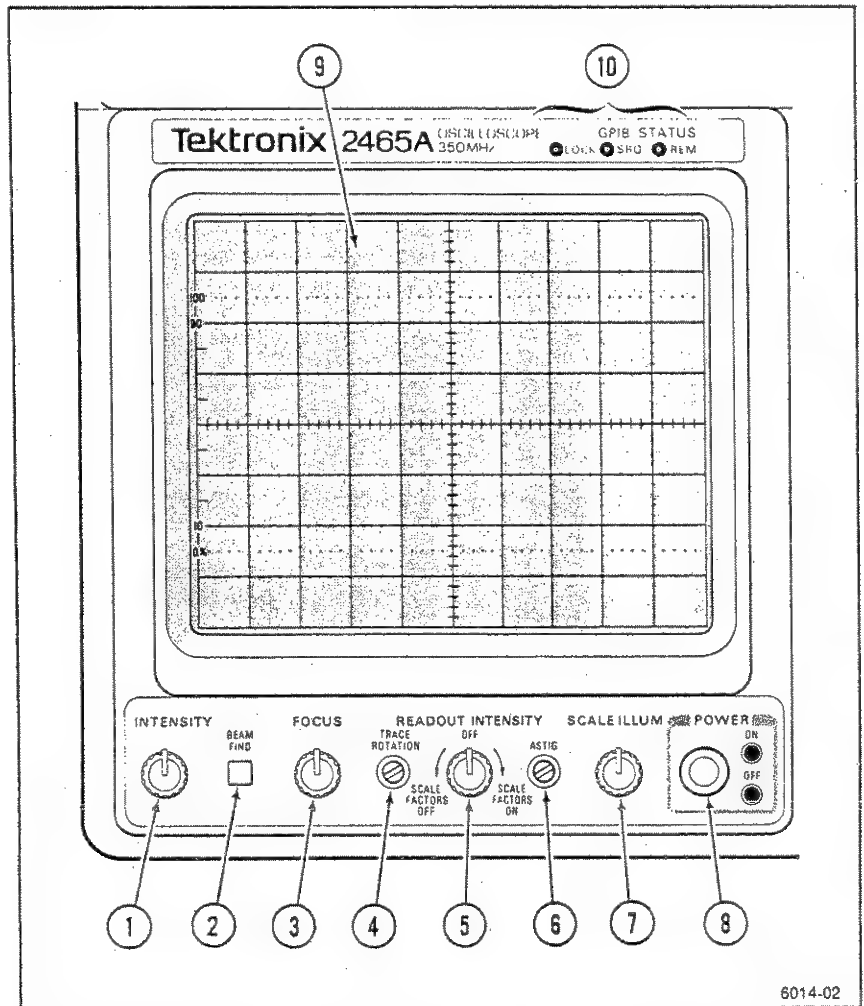

Figure 5-1. Power and display controls.
Refer to Figure 5-1 for the location of items 1 through 10.